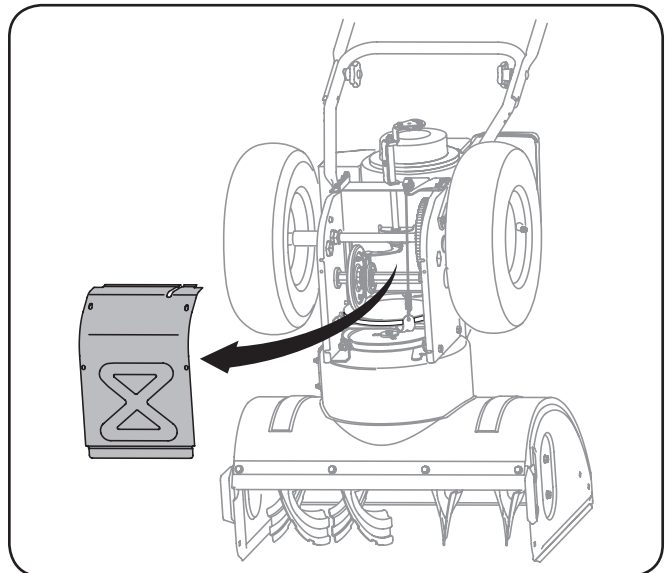

Figure 7-3
3. Remove the frame cover from the underside of the snow thrower by removing the self-tapping screws which secure it. Refer to Figure 7-3.
5. Remove the frame cover from the underside of the snow thrower by removing the self-tapping screws which secure it. See Figure 7-3.
5. Remove the frame cover from the underside of the snow thrower by removing the self-tapping screws which secure it. Refer to Figure 7-3.
3. Remove the frame cover from the underside of the snow thrower by removing four self-tapping screws which secure it. Refer to Figure 7-3.